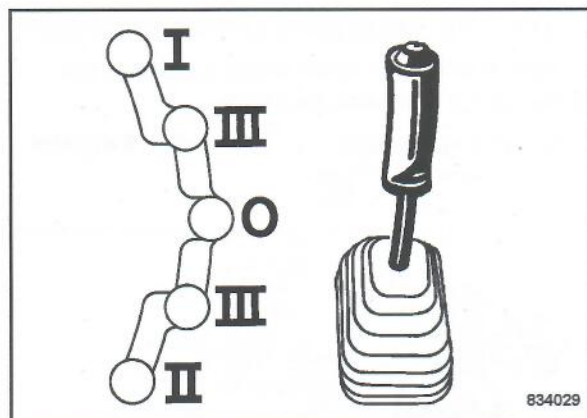

Fig. 35
- Shift the travel lever (Fig. 35) slowly to the desired travel direction.